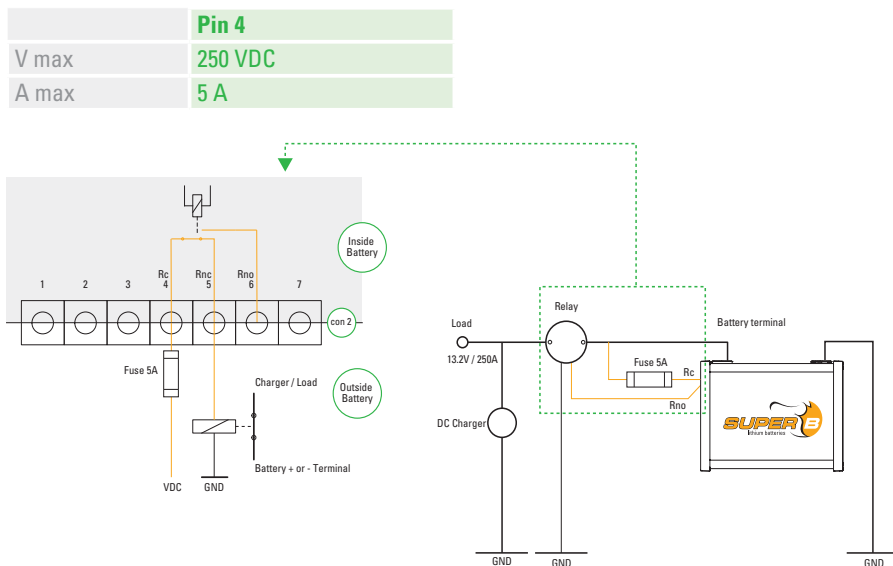

Figure 4. Connect a normal relay as BMS switch off device
1. When using a normal relay, connect it to Con 2 (I/O Connection 7), Pin 4 (Rc) and Pin 5 (Rnc) as displayed in Figure 4